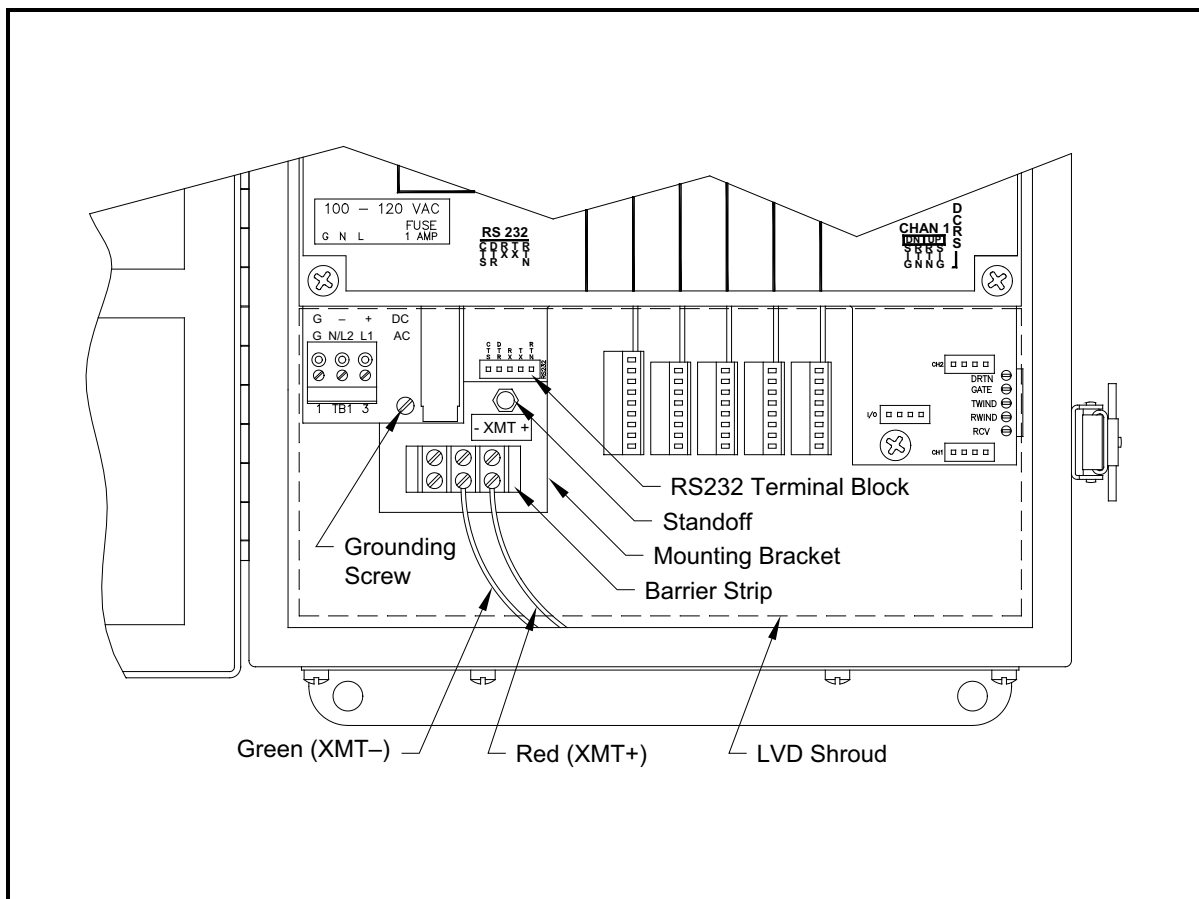

Figure 9: Interface Converter Mounting
A special bracket containing the serial interface converter and a three-terminal barrier strip is mounted inside the Model GM868, just below the RS232 terminal block (see Figure 9 below). The standard RS232 terminal block is wired to the input of the serial interface converter, and the RS-485 output of the serial interface converter is wired to the barrier strip.
Standard factory wiring of the RS485 serial interface is configured for point-to-point wiring. That is, a single Model GM868 may be wired directly to a single personal computer. To connect the RS485 serial interface, refer to Figure 9 on page 77 and complete the following steps:
3. Remove the serial interface converter *mounting bracket* by removing the standoff located below the RS232 terminal block and the grounding screw just to its left (see Figure 9 on page 77).